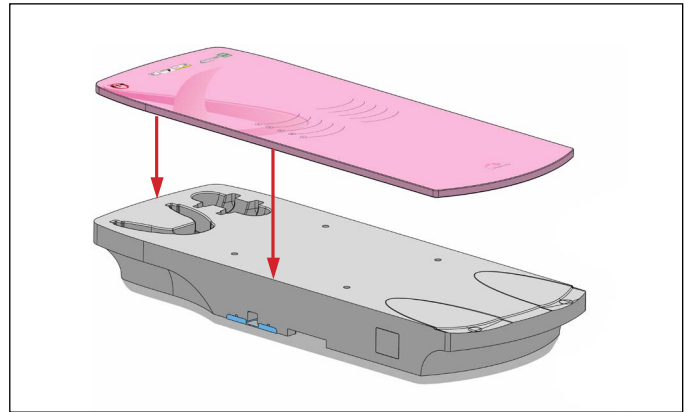

Fig. 2
2. Align Pad with the foot end and sides of the Access™ Prone Leg Component and adhere. Press firmly on the areas where the hook and loop strips are located. (Fig. 2)
2. Align Pad with the breast cut-out of the Access™ Prone Insert and adhere. Press firmly on the areas where the hook and loop strips are located. (Fig. 2)